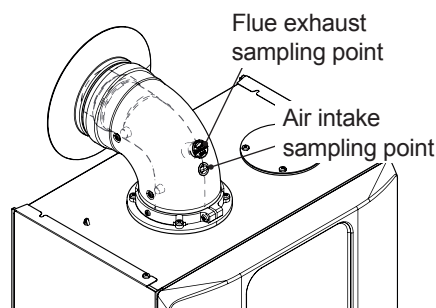

Figure 11.3
- 8 Fit the probe of the flue analyser in the flue exhaust sampling point located on the exhaust pipes of the boiler (Figure 11.3).
- 1 Connect a flue analyser to the flue gas analysis outlets on the flue gas exhaust on the boiler (Figure 11.3).